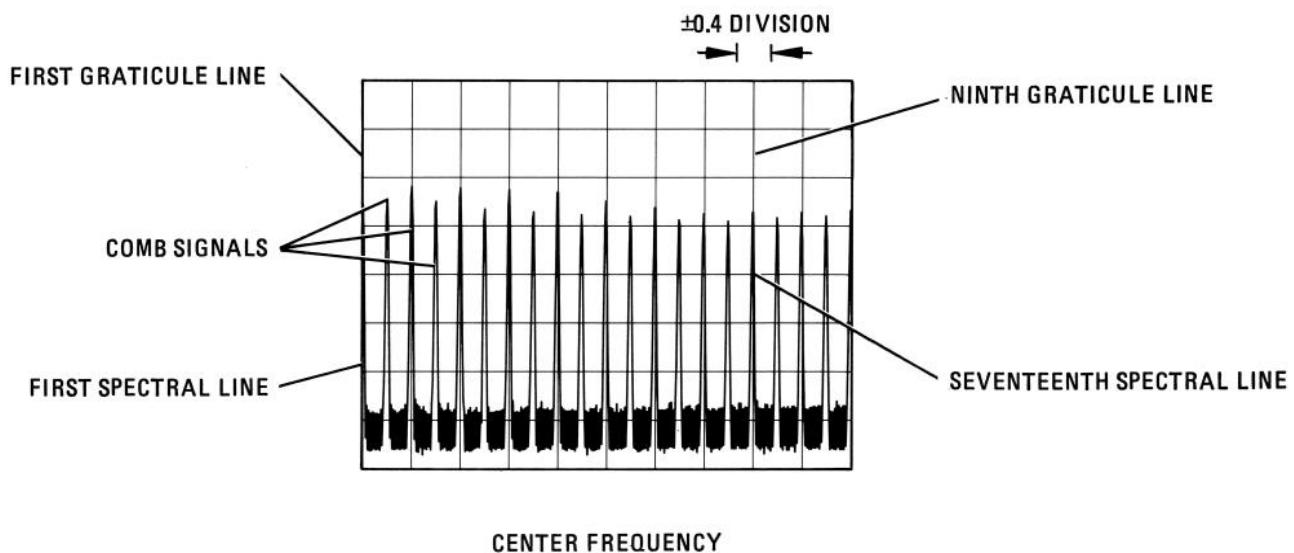

FIGURE 4-3. FREQUENCY SPAN ACCURACY MEASUREMENT FOR SEVENTEENTH SPECTRAL LINE
5. Set comb generator COMB FREQUENCY – MHz for 10-MHz comb. Set spectrum analyzer FREQ SPAN/DIV to 20 MHz. Adjust TUNING control to position one spectral line at first graticule line. Measure error between 17th spectral line and ninth graticule line as shown in Figure 4-3. Error should be no greater than  $\pm 0.4$  division.